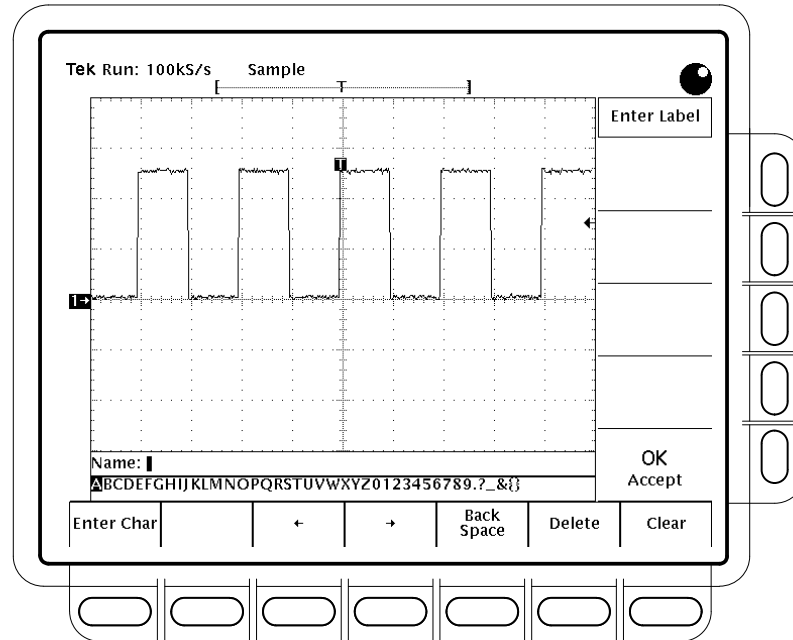

Figure 3-69: File System — Labeling Menu
**To Rename** To rename a file or directory, turn the general purpose knob until it scrolls the cursor over the name of the file or directory to delete. For example, to rename the target file whose default name is TEK????? set the cursor over its name. Then, press the side menu **Rename** button. (See Figure 3-69).